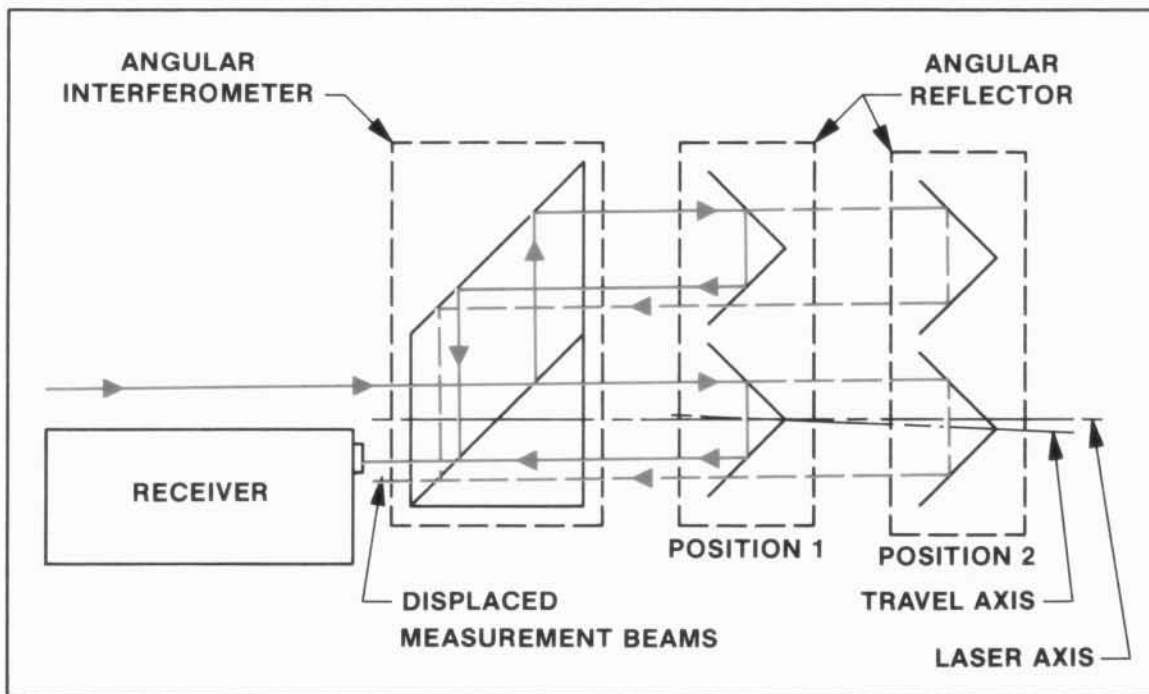

Figure G-3. Measurement Beam Dots Movement
- d. Move the reflector away from the interferometer. If the laser beam is not parallel to the axis of travel, the measurement beams will begin to move away from their original position. The impinging beams will move until the beam is cut off by the edge of the interferometer's aperture. Stop moving the reflector before the beam is blocked, or when the end of travel is reached. *Figure G-3* illustrates this situation.